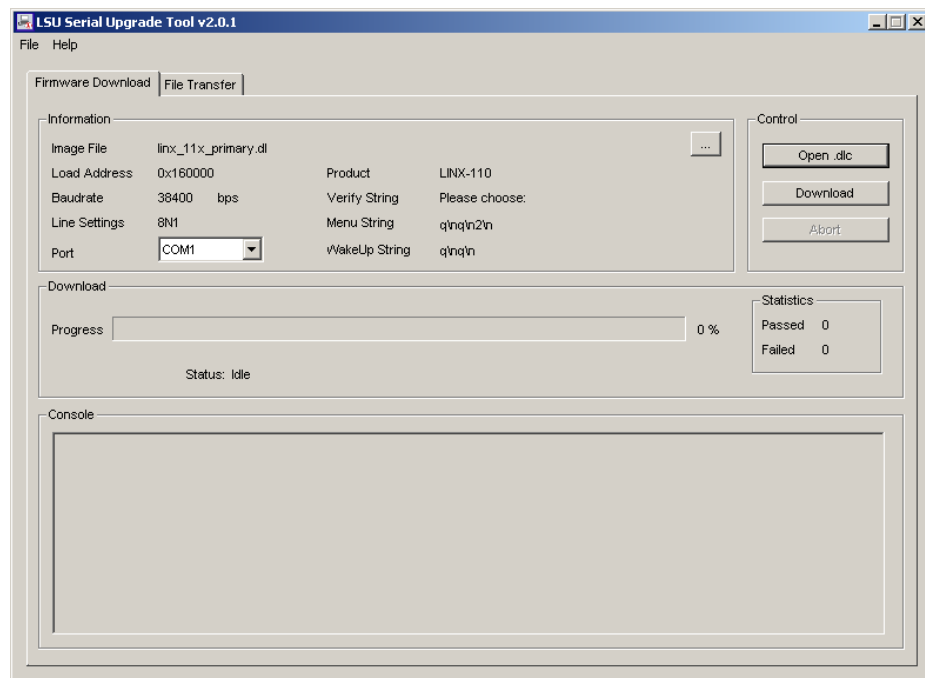

Figure 151: LSU Serial Upgrade Tool in Idle Mode
1. Double click on the *.dlc file that comes with the new firmware package. This should start the LSU Tool and load the firmware image referenced in the dlc file. Please note that the dlc file and the dl file must be stored in the same folder. The start window of the LSU tool is shown in Figure 151.